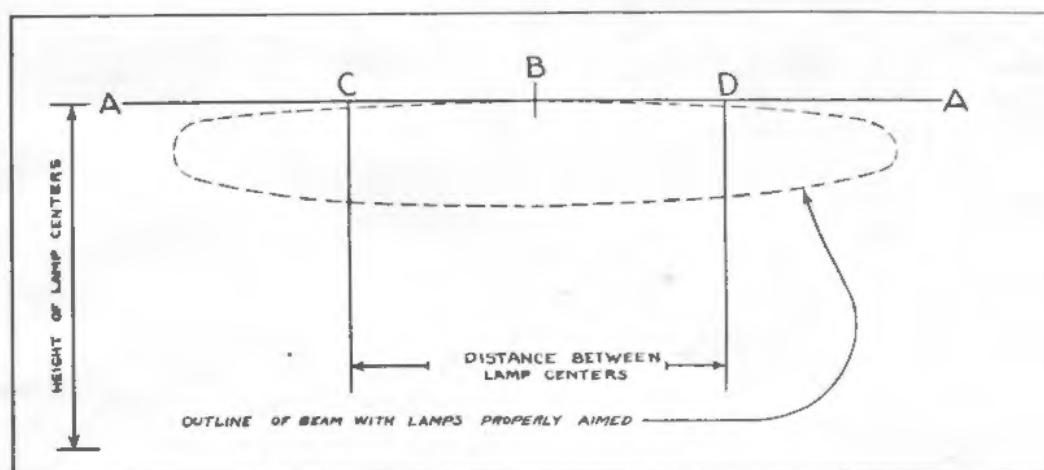

Figure 15
Place the car on a level floor or driveway squarely in front of a white wall or screen at a distance of twenty-five feet. Draw a horizontal line (AA), Figure 15, on the wall six feet long and at a height equal to the height of the center of the headlamps from the floor. Sight through the center of rear window and over the radiator ornament and determine the exact center line of the car projected on the wall, as indicated at point (B) in the illustration. Measure one-half the distance between the centers of the headlamps to each side of point (B) and draw the vertical lines (C) and (D) through these points. These lines represent the vertical center lines of the lamps.